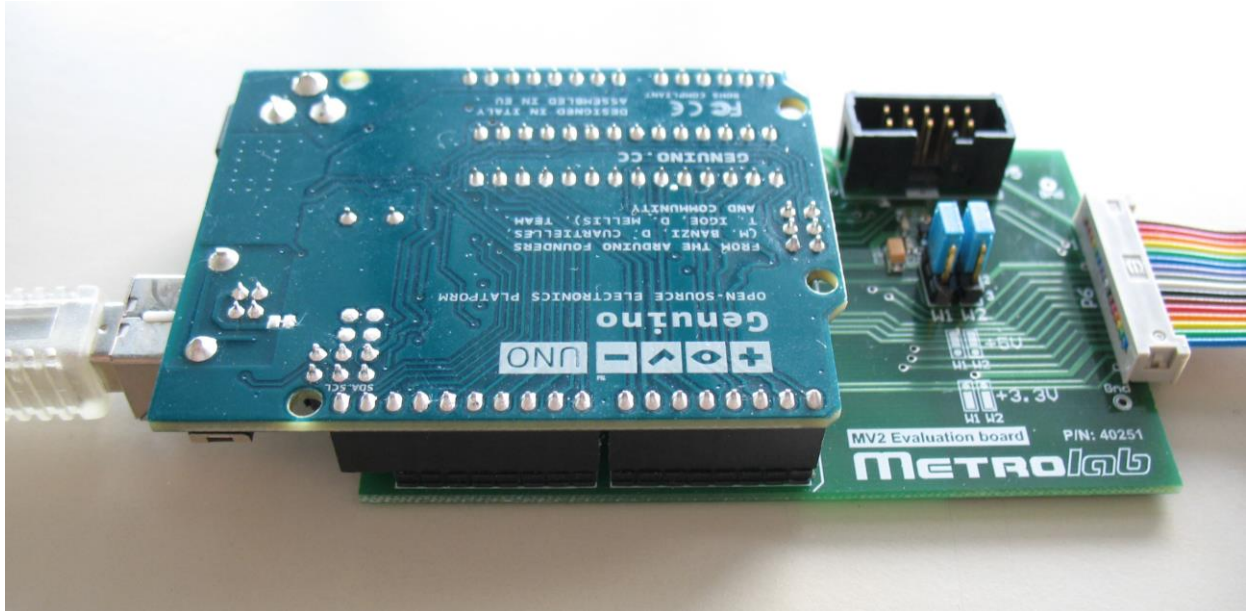

Figure 18. Arduino/Genuino UNO connected to MagVector MV2 test board.
As shown in Figure 18, the Arduino UNO's connectors mate exactly with those on the test board: the Arduino UNO Digital headers (IOL and IOH) connect to P1 and P2, respectively, on the test board; the Arduino UNO Analog (AD) and Power (POWER) headers connect to P3 and P4, respectively, on the test board. Note that the last two pins of the Digital header (IOH-9 – SDA and IOH-10 – SCL) are not connected to the test board.